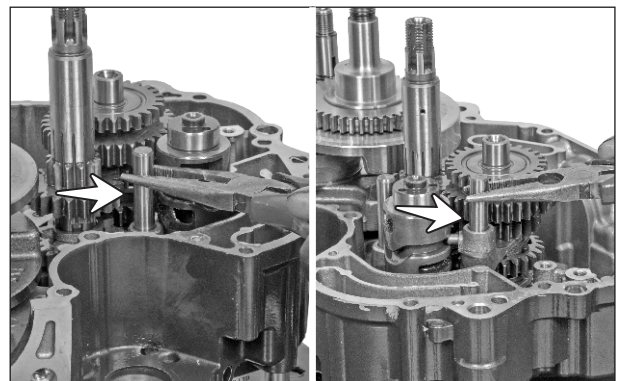

Fig. 3.186
- Assemble both the shaft shift forks in the crankcase assembly LH through fork gear shifts. (Fig. 3.186)